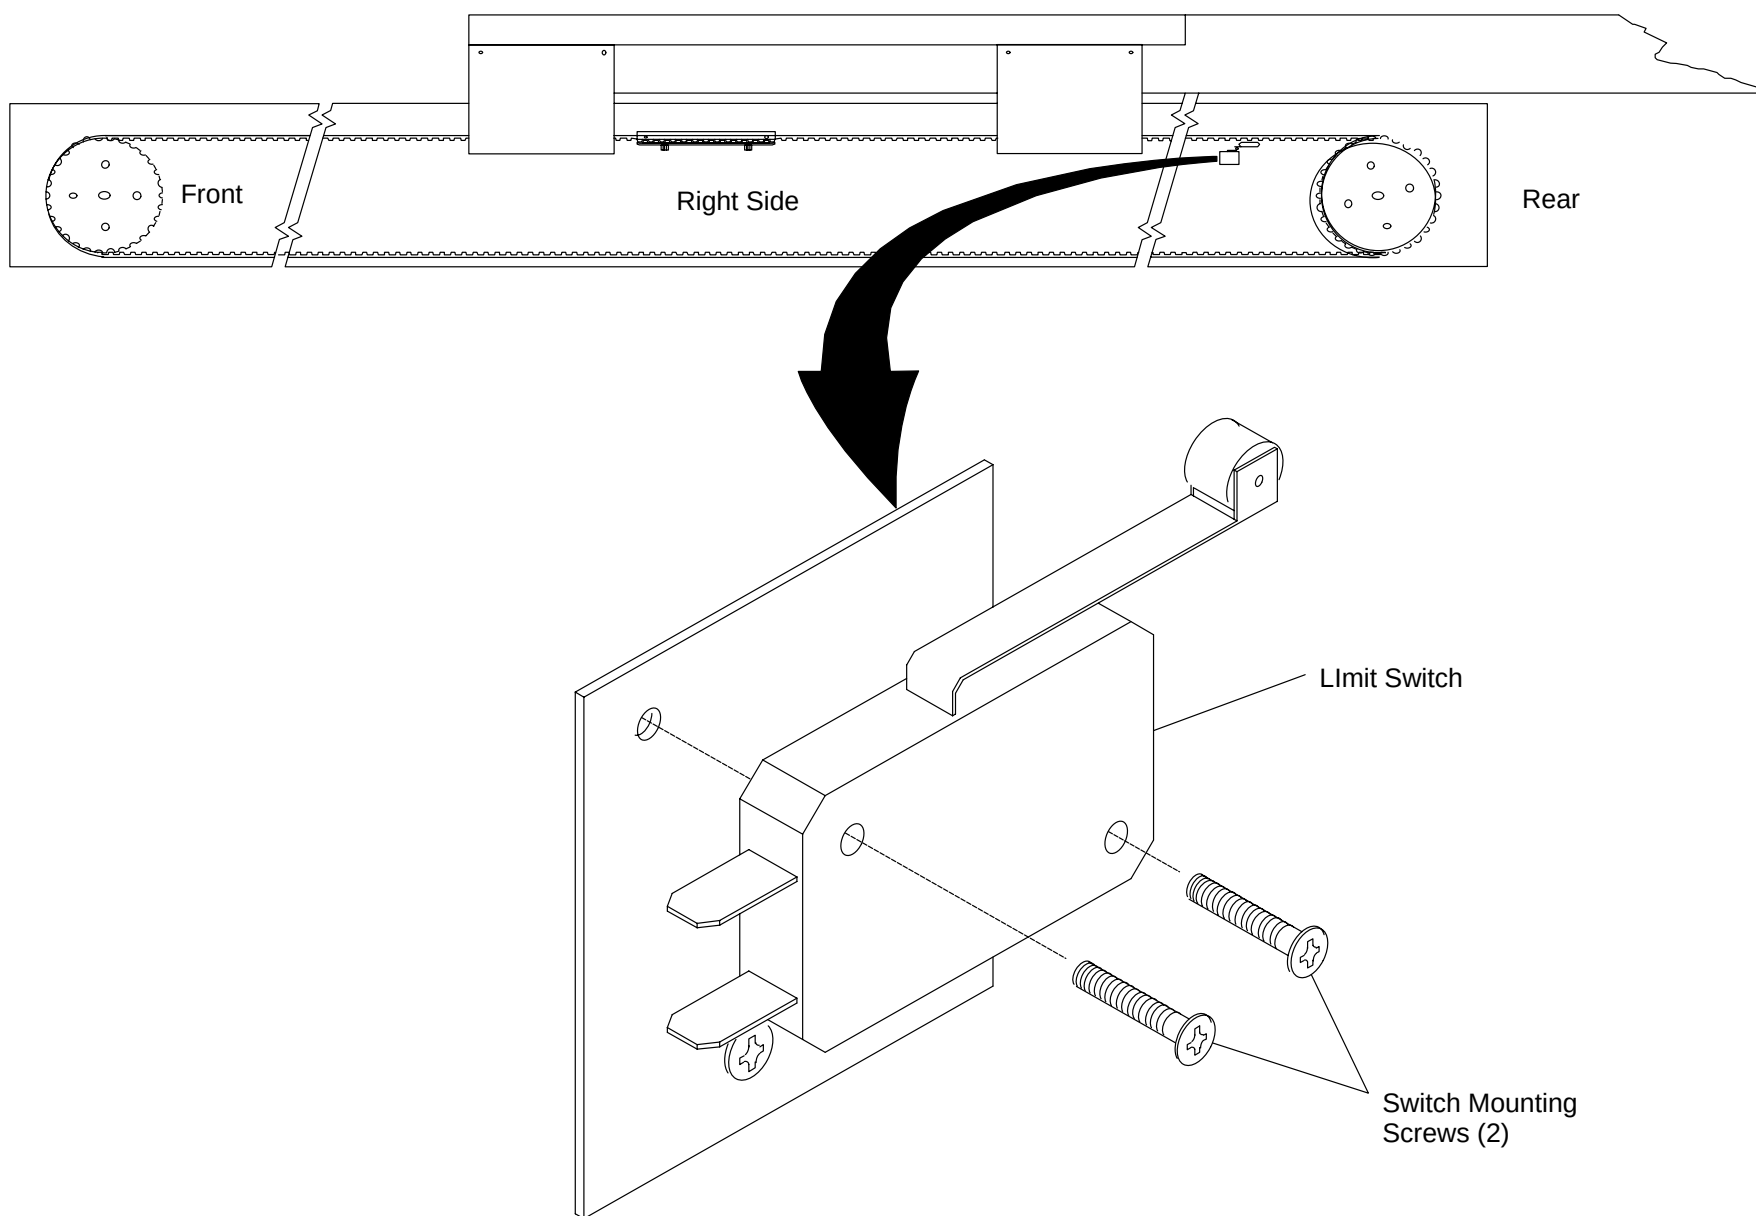

FIGURE 208 HORIZONTAL LIMIT SWITCH ASSEMBLY
6. Tag (if needed) and remove the Wires connected to the Switch(es) to be removed. See Figure 208.